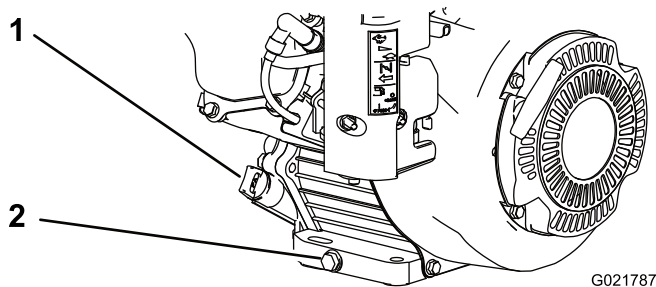

Figure 20
4. Remove the drain plug (Figure 20).